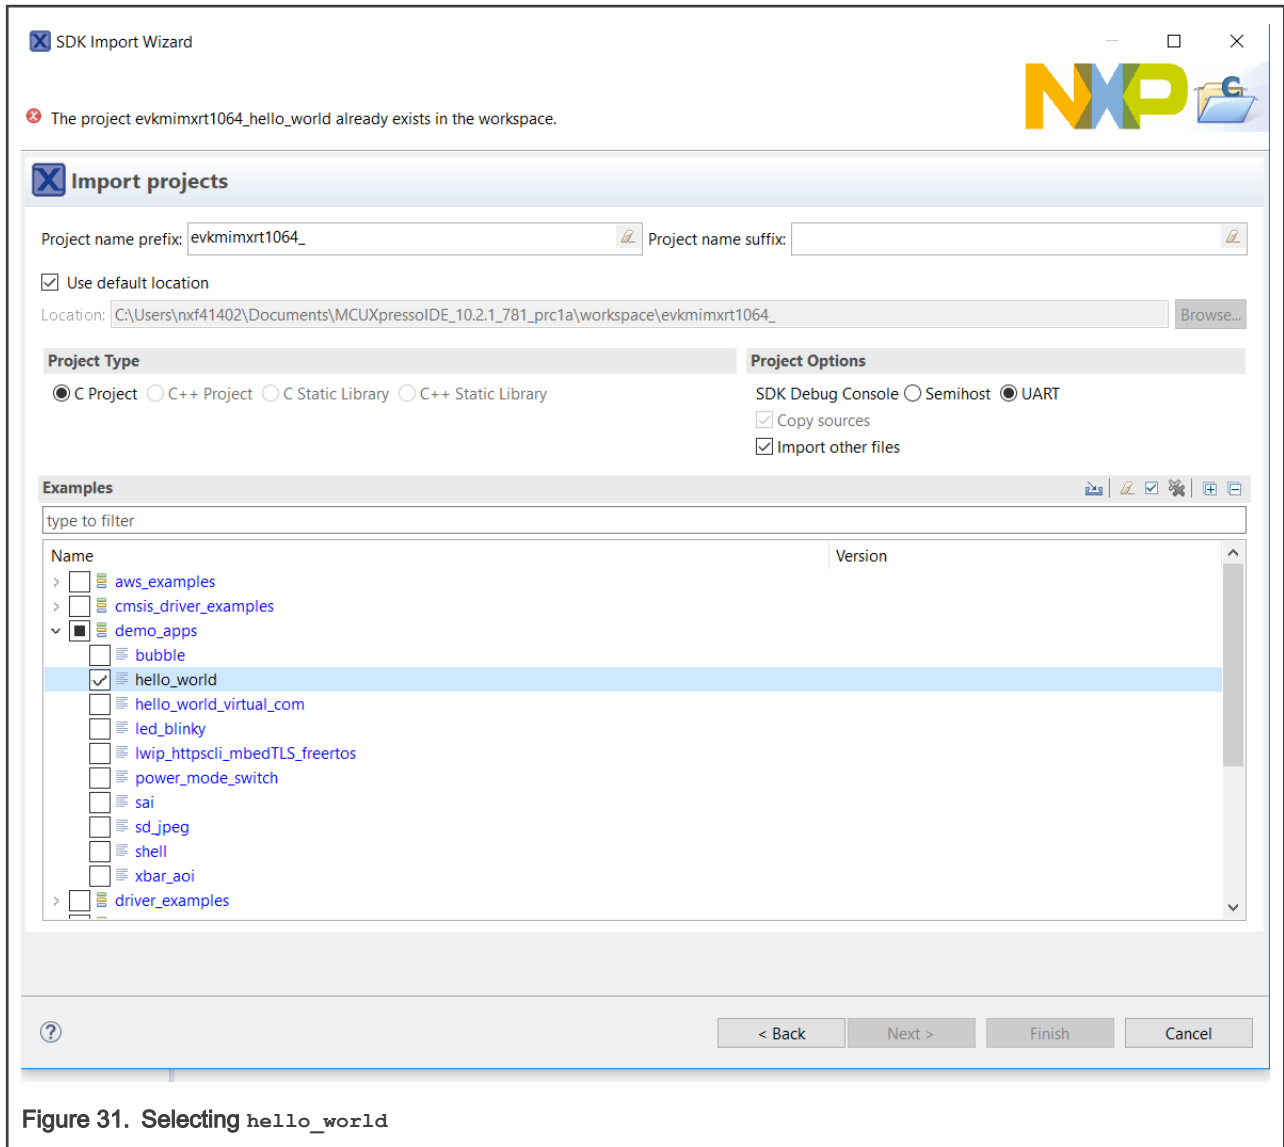

Figure 31. Selecting hello_world
- Expand the `demo_apps` folder, select `hello_world`, and then click **Next**, as shown in Figure 31.